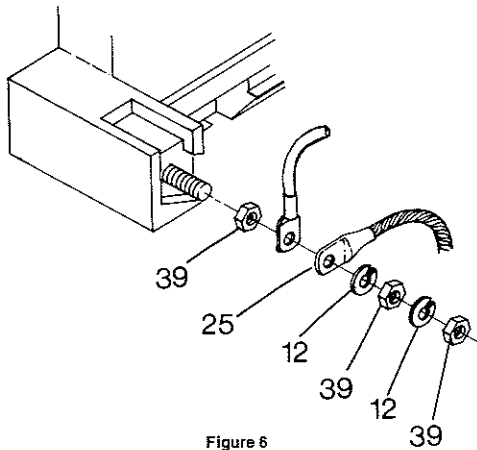

Figure 6
- Remove the arc chute wire by removing the bottom end of the shunt (25), two lockwashers and two nuts which secure arc chute wire to contactor base.
- Remove the arc chute by removing the pan head screw (5), washer, lockwasher and nut.
- Reconnect the arc chute wire and the bottom end of the shunt (25) to the contactor base using the lockwashers and nuts (Fig. 6).
- With all power removed, disconnect the bottom end of the shunt (25) by removing the two lockwashers, and two hex nuts.
4. Reconnect the arc chute wire and the bottom end of the shunt (25) to the contactor base using the lockwashers and nuts (Fig. 6).